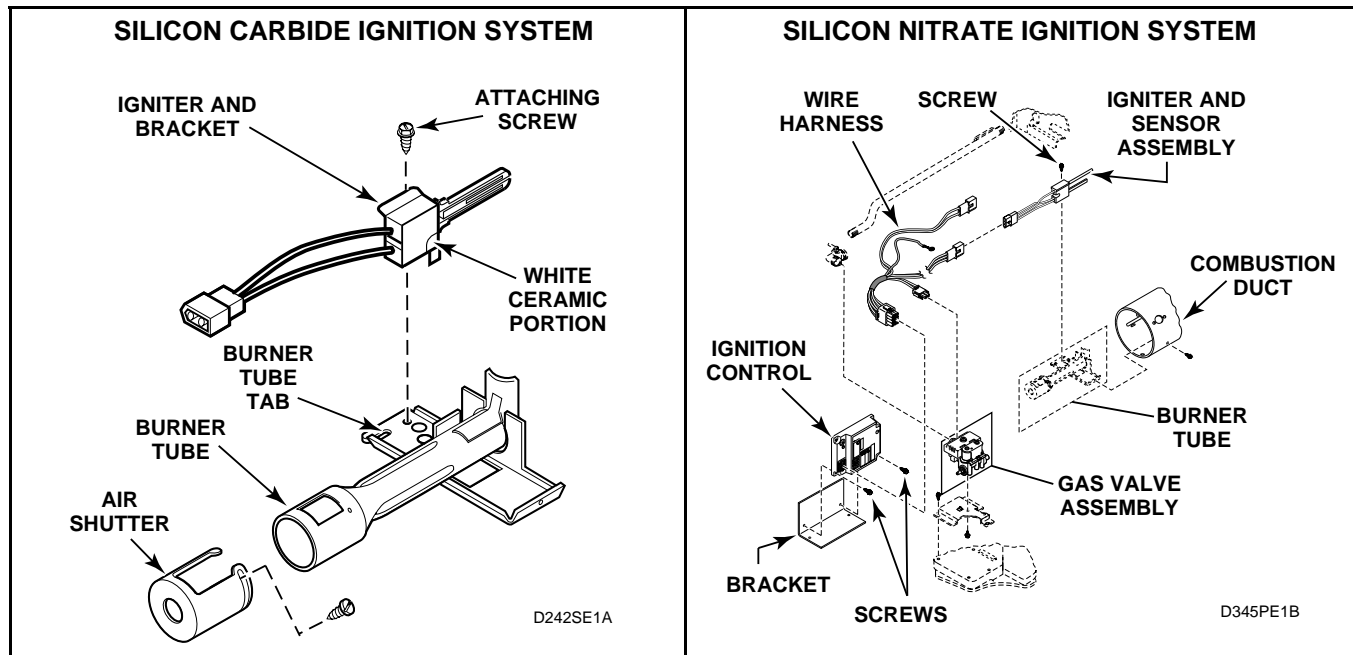

Figure 39
- (5.) Remove screw holding igniter and bracket to burner tube and remove igniter and bracket. See *Figure 39*.
- (4.) Remove screws holding ignition control to bracket. See *Figure 39*.
- (5.) Carefully remove ignition control. See *Figure 39*.
- (4.) Remove screw holding igniter and sensor assembly to burner tube. See *Figure 39*.